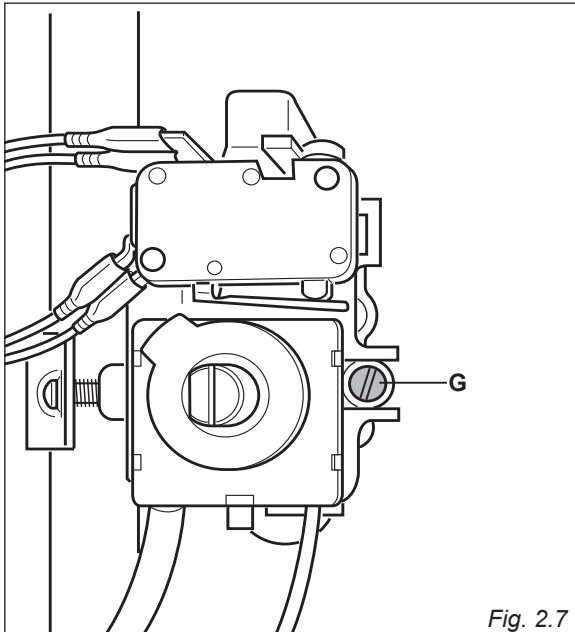

Fig. 2.7
- Remove the knob and unscrew the by-pass screw “G” (fig. 2.7) about three times by passing a small flat screwdriver (Ø 3 mm blade, 100 mm length) through the control panel opening.
- After having removed the knob again and being very careful not to turn the thermostat rod, slowly screw the by-pass screws “G” (fig. 2.7) until you obtain a flame of 3-4 mm in height.